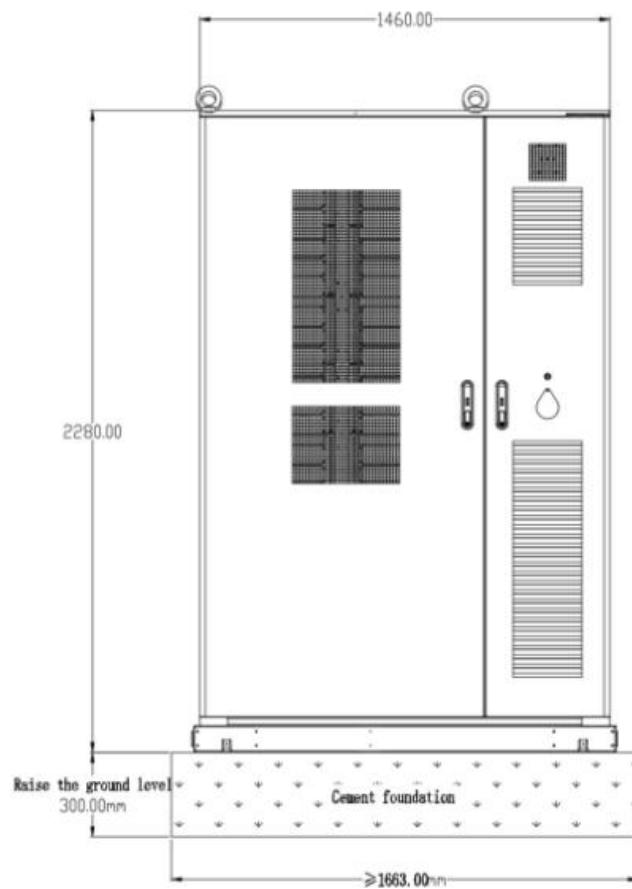

Figure 5-1 Energy storage cabinet fixing diagram
Step 1: After placing the energy storage cabinet in the designated position, secure the cabinet base with M12 bolts, as shown in Figures 5-1 and 5-3 below: